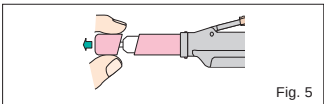

Fig. 5
- a) Remove the cartridge cover. (Fig. 5)